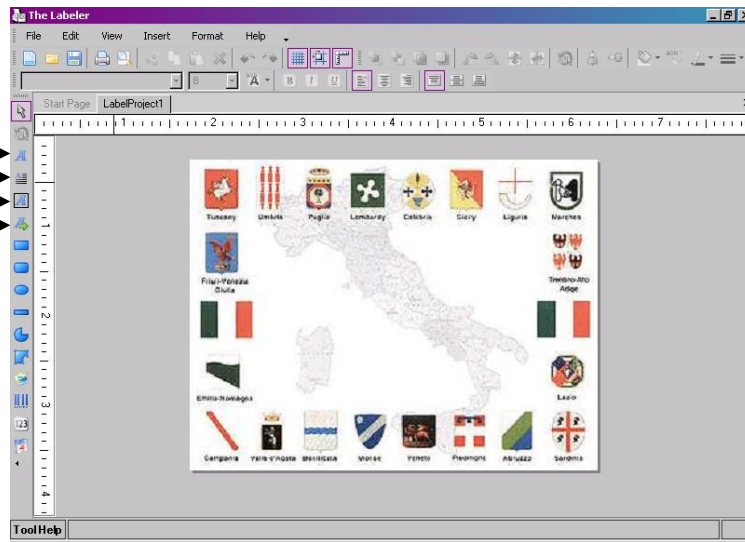

Figure 6.1.3.1: Select type of text
1. Select any of the four types of text (see Figure 6.1.3.1).